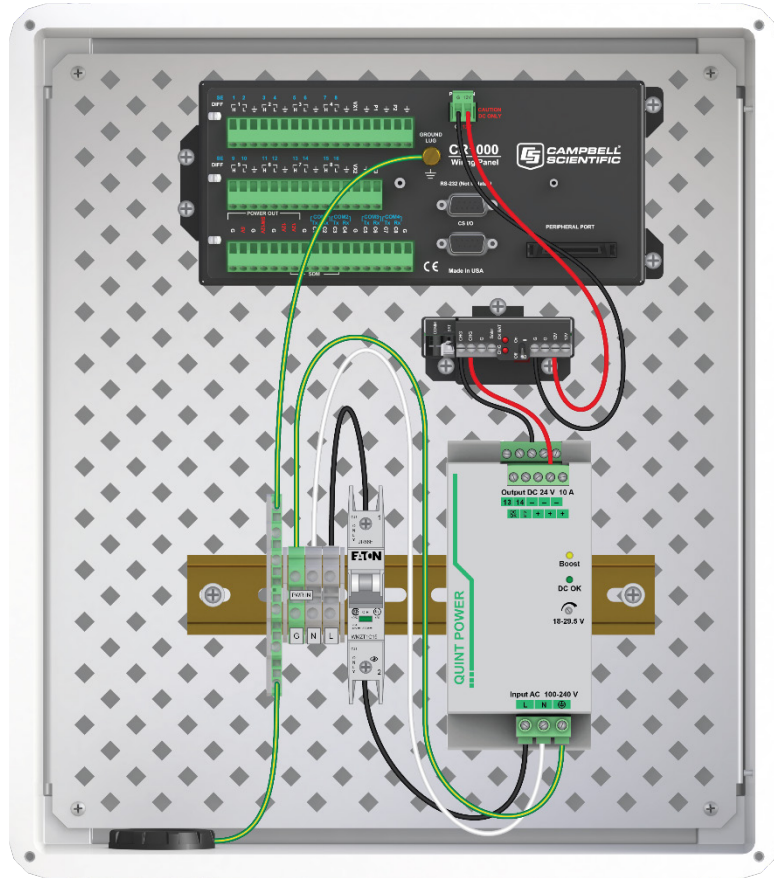

FIGURE 5-10. 10 A power supply wiring
9. FIGURE 5-10 shows an overview of the complete 10 amp kit Campbell Scientific pn 28371. The CR1000 and CH200 are not included in the kit. The 10 A power supply has a ground terminal, and requires a 14 AWG green wire to be connected between the ground terminal on the power supply and the G (Ground) terminal block as shown.